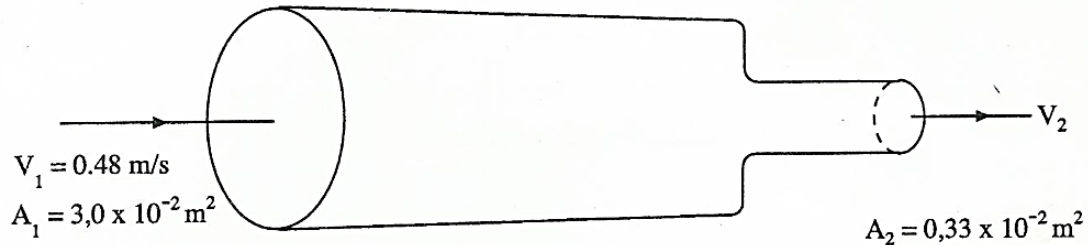

Fig. 1.3
- (ii) Oil of density 0.800 g/cm^3 is flowing through a horizontal pipe as shown in Fig. 1.3.